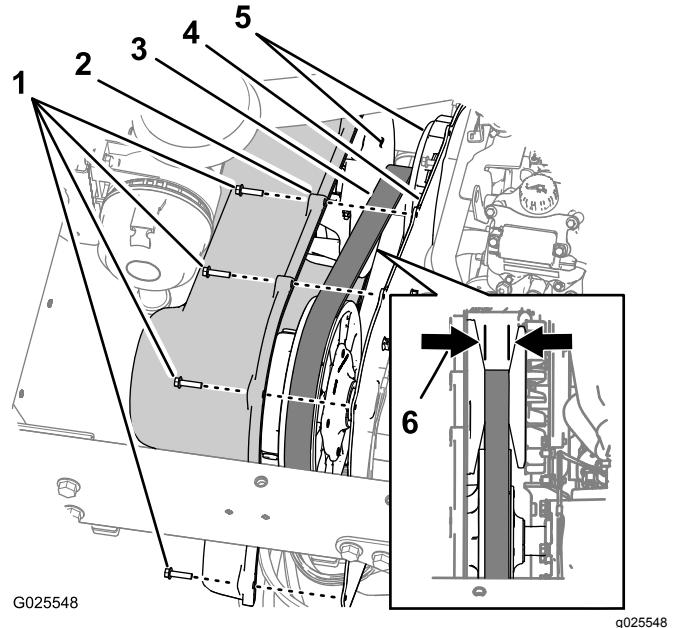

Figure 63
1. Remove the 9 hex-washer bolts (1/4 x 1 inch) that secure the transmission cover to the mounting plate of the transmission (Figure 63).
2. Move the cover forward until you can see the drive belt (Figure 63).
3. Check the tapered faces of the primary clutch for signs of damage (Figure 63).
4. Check the drive belt for missing or damaged cogs (Figure 63).
5. Measure across the belt and record the belt width (Figure 63).
Note: If the width of the belt is 29.5 mm (1.16 inches) or less, replace the belt (Figure 63).
6. Align the holes in the transmission cover with the holes in the mounting plate (Figure 63).
7. Secure the cover to the mounting plate (Figure 63) with the 9 hex-washer bolts (1/4 x 1 inch).